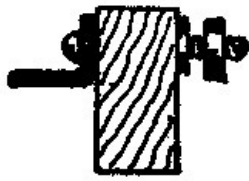

Fig. 33.
**66. Binding-Post.** Fig. 33. This is a suggestion for a combination of App. 44 and 47. It is useful in school apparatus. Wires may be permanently fastened on the right, under the nut, and a spring, as in App. 44, may be slipped on the metal strip at the left, which is held under the head of the bolt.